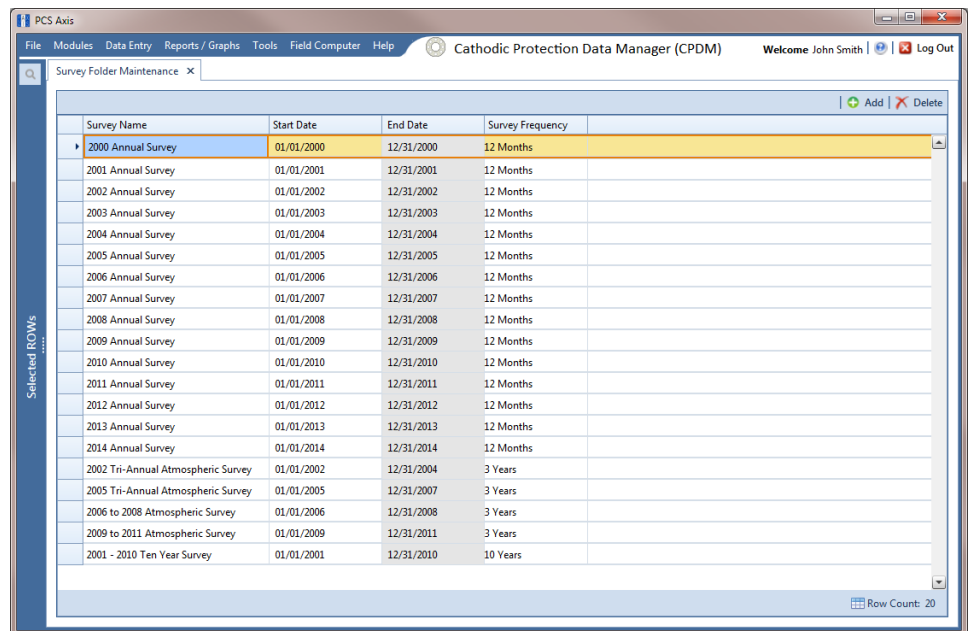

Figure 6-1. Survey Folder Maintenance
Names of facility survey folders typically follow regulatory requirements for surveying pipeline segments and facilities. For example, when you create an annual survey folder labeled *2012 Annual Survey*, you can then assign inspection readings to the facility survey folder throughout the year as they are completed. Names of facility survey folders are editable allowing you to name a survey folder using a naming convention that best suits your business needs. Examples of typical survey folder names include *2012 Feb Monthly Survey* and *2001-2010 Ten Year Survey* (Figure 6-1, page 194).
- 1 Click **Data Entry > Survey Folder Maintenance** to open the *Survey Folder Maintenance* window (Figure 6-1).
- 1 Click **Data Entry > Survey Folder Maintenance** to open the *Survey Folder Maintenance* window (Figure 6-1, page 194).